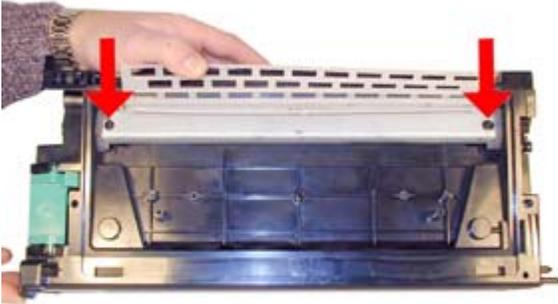

Figure 13
12) Coat the NEW wiper blade with your preferred lubricant and install. See Figure 13